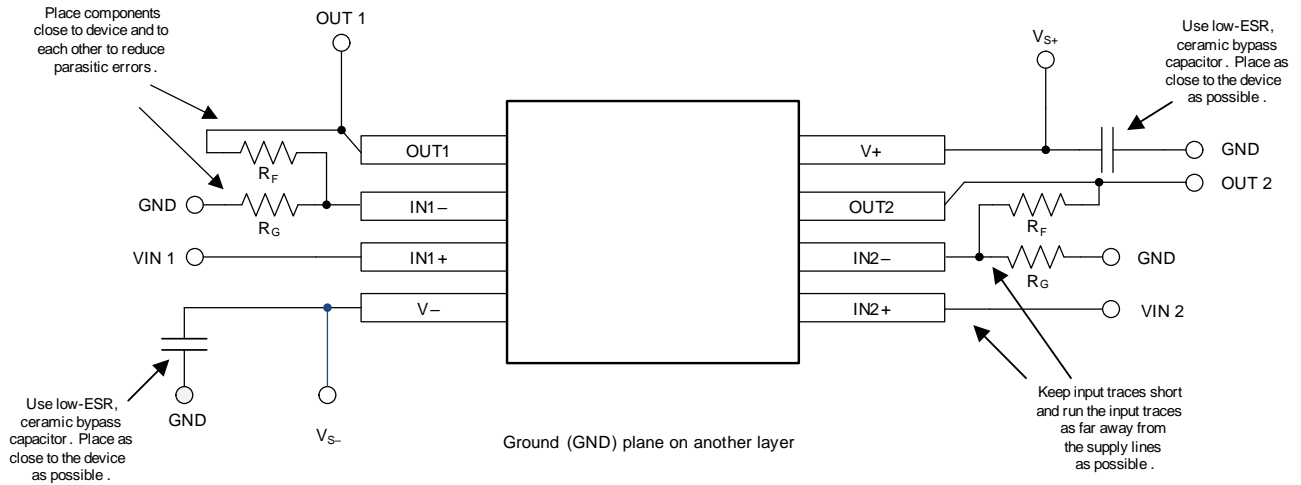

Figure 46. Layout Example
- Place the external components as close to the device as possible. As illustrated in Figure 46, keeping R_F and R_G close to the inverting input minimizes parasitic capacitance on the inverting input.